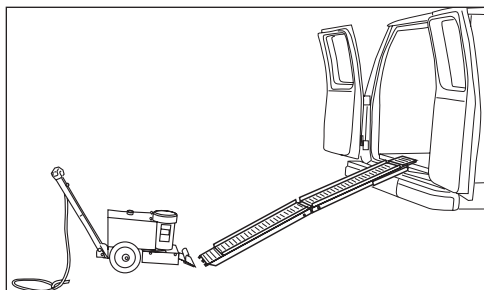

FIG. 3
4. Slowly back machine down ramp (Figure 3).